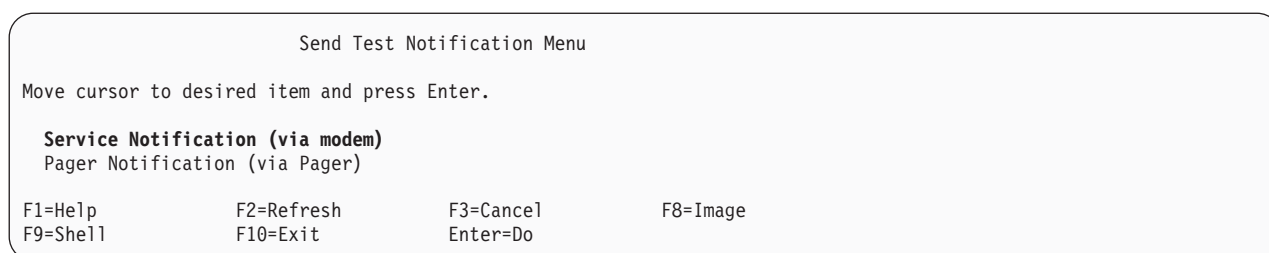
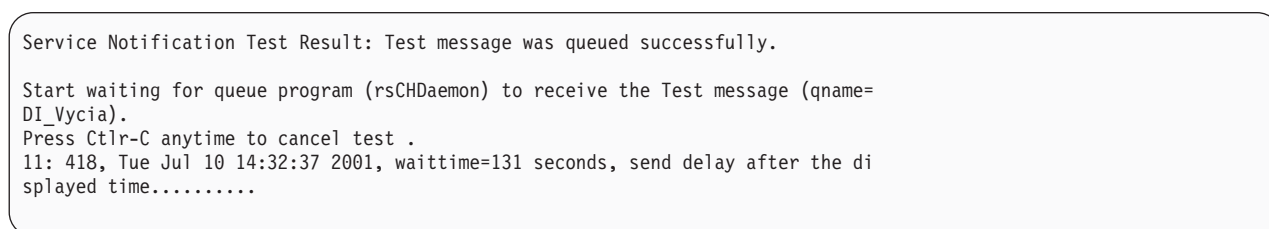

Figure 2-110. Send Test Notification Menu – Service Notification
Figure 2-111. Send Notification Test Result Menu – Waiting
- 1. Return to the tape system's Call Home / Remote Service Menu at the Library Manager EBTERM Service Screen (if available). To test a call home through the System Console, select **Send Test Notification Menu**, as shown at Figure 2-109. Press **Enter**. Figure 2-110 on page 2-81 displays.
- 2. At Figure 2-110 on page 2-81, select **Service Notification (via modem)**. Press **Enter**. Figure 2-111 on page 2-81 displays.